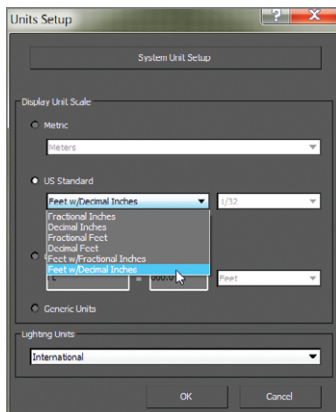

FIGURE 3.2 From the US Standard drop-down menu, choose Feet w/Decimal Inches.
3. From the US Standard drop-down menu, choose Feet w/Decimal Inches, as shown in Figure 3.2.